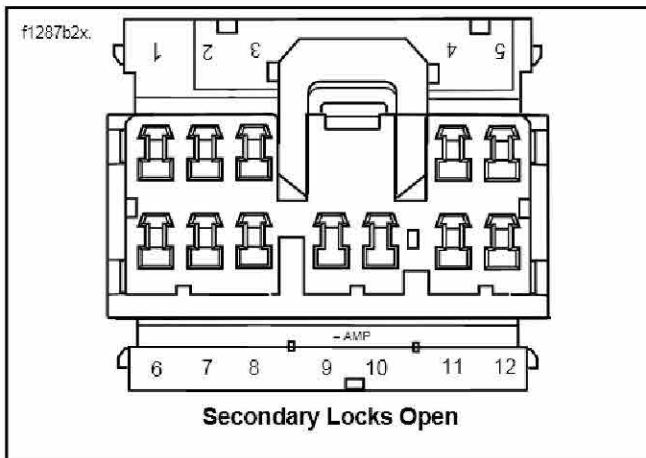

Figure 7. Terminal Numbers Stamped On Secondary Locks (12-place socket housing shown)
3. See Figure 7. Remove the following wires and terminals from the 12-place socket connector half by following the procedure in step 4: